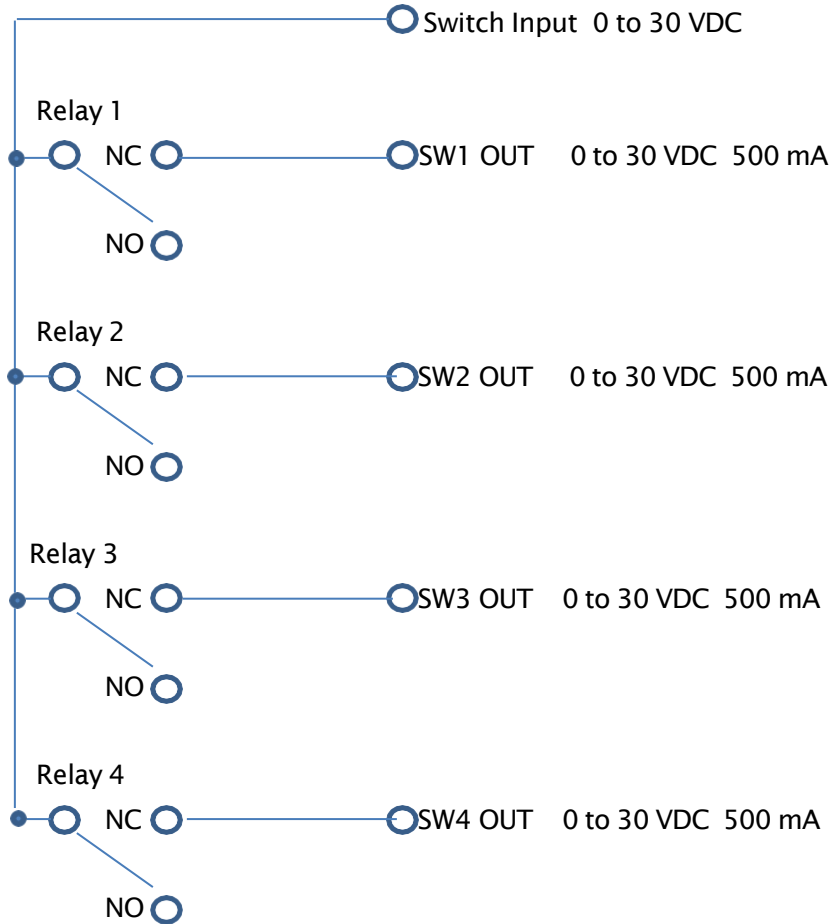

FIGURE 3. SWITCH WIRING DIAGRAM
3.6.2 Set the initial State of the Relays in Horizontal Mode (See Figure 3)